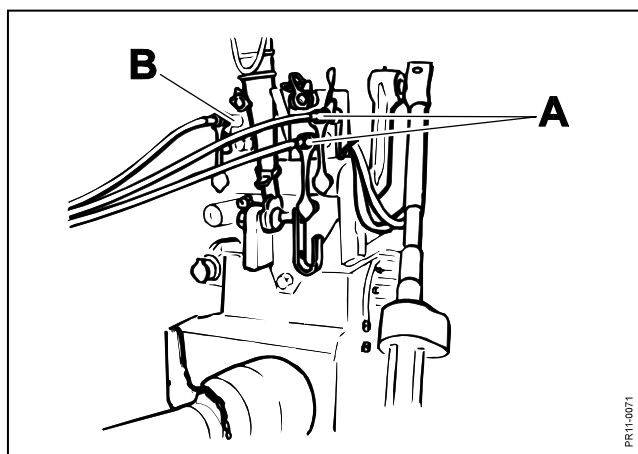

Fig. 2-5
**Fig. 2-5** The hydraulic hoses for the cylinders for conversion between work and transport position are connected to the double-acting oil outlet **A** and the hydraulic hose for the lifting cylinders is connected to a single-acting outlet **B** on the tractor. If the machine is fitted with the equipment “Cylinder for over-steering” an extra double acting outlet must be used.